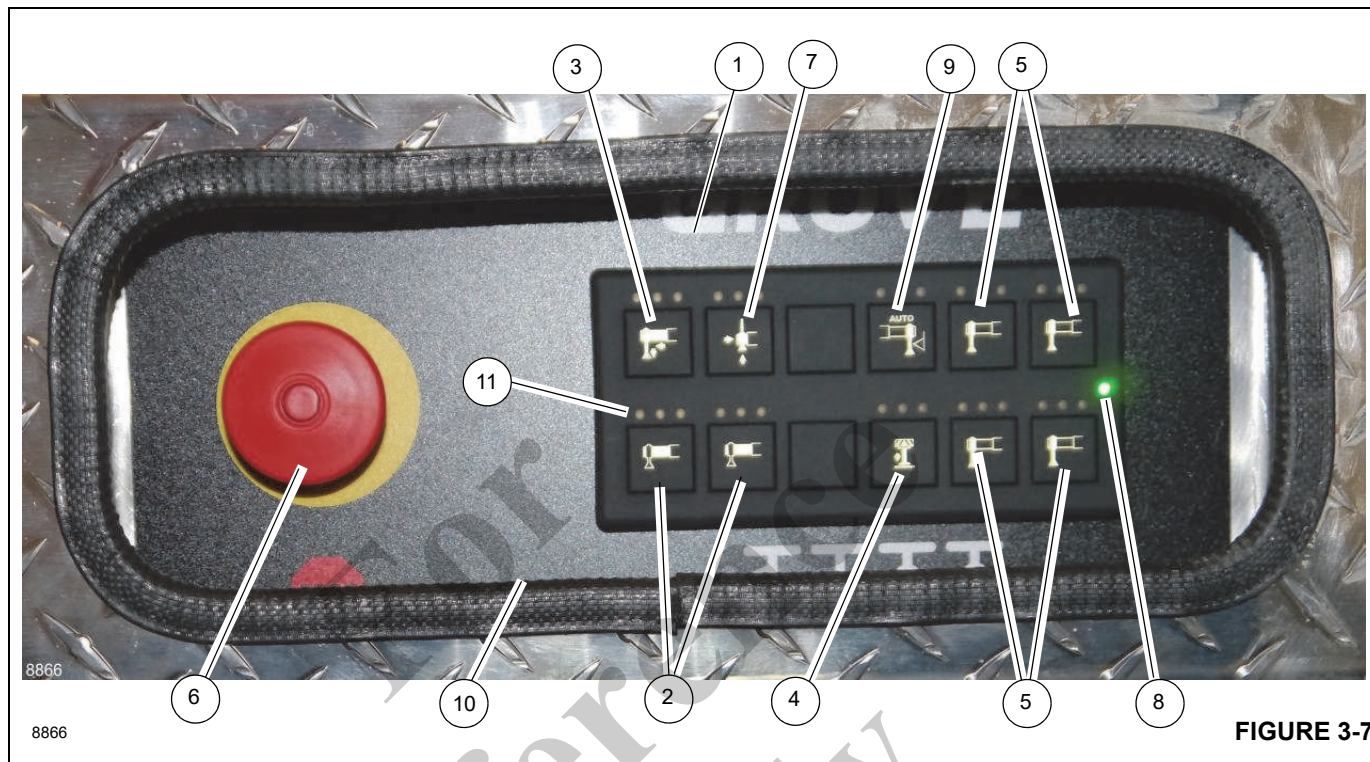

FIGURE 3-7
A push button Emergency Stop Switch (6), (Figure 3-7) is installed on the panel.
There is one Outrigger Control Panel (1), (Figure 3-7) on each side of the crane's frame. The panel on the right side operates the outrigger beams for that side only. The panel on the left side operates the outrigger beams for that side only. The jacks may be operated from the left or right side of the crane. Also refer to *Setting the Outriggers from the Superstructure Cab*, page 4-27.
The Outrigger Beam Selector Switches (2), (Figure 3-7) are used to select the desired operation of the front or rear outrigger beam for the side of the unit the control panel is on.
The Extend Switch (3), (Figure 3-7) will operate both the outrigger beams or the jacks. After pushing the desired selector switch, pushing the extend switch will move the selected component in the extend direction.
The Center Front Jack Switch (4), (Figure 3-7) is located in the center of the outrigger control panel. It must be used in conjunction with the extend/retract switch to control the operation of the center front jack. The center front jack will retract automatically when any of the other four jacks are retracted; therefore, it must be reset if lifting is to be continued.
The Jack Selector Switches (5), (Figure 3-7) are used to select which jack is to be operated. There are four Jack Selector Switches located on each of the Outrigger Control Panels. An Outrigger Control Panel is located on each side of the crane.
An Emergency Stop Switch (6), (Figure 3-7) is located on each outrigger panel. Push the switch to stop the engine and all hydraulic functions.
The Retract Switch (7), (Figure 3-7) will operate both the outrigger beams or the jacks. After pushing the desired selector switch, pushing the retract switch will move the selected component in the retract direction.
The Power Indicator Light (8), (Figure 3-7) illuminates green when power is available to the control panel.
The Auto Level Switch (9), (Figure 3-7) is used to automatically level the crane. The auto leveling algorithm adjusts the crane carrier angle while retracting the outrigger jacks. Thus, it is necessary to fully extend the outrigger jacks prior to pushing the auto level button.
A Bubble Level Indicator (10), (Figure 3-7) (Not Shown) is located at the bottom of each outrigger control panel. If suspected that the bubble level indicator is out of adjustment, refer to *Bubble Level Indicator Adjustment*, page 4-26.
Each switch (11), (Figure 3-7) has three (3) LED lights above it. Green indicates the button is active and the function is allowed. Yellow is located in the center of the three buttons/lights and indicates a fault condition. For example, if someone tries to activate the button when it is not allowed, it will indicate that there is an error. Red indicates that the function is not allowed or not enabled.